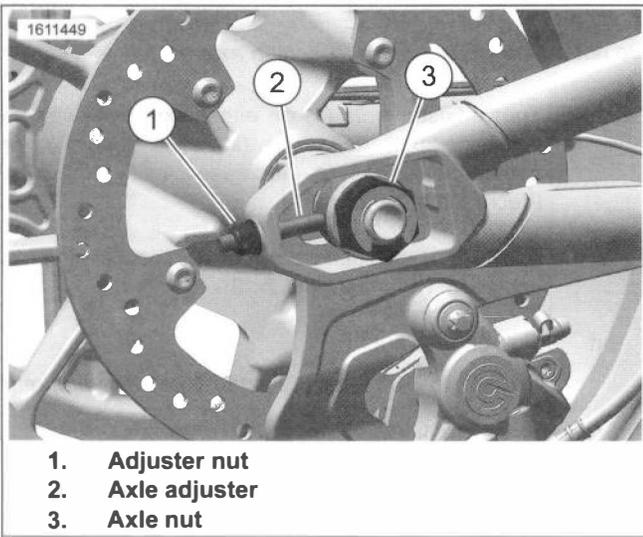
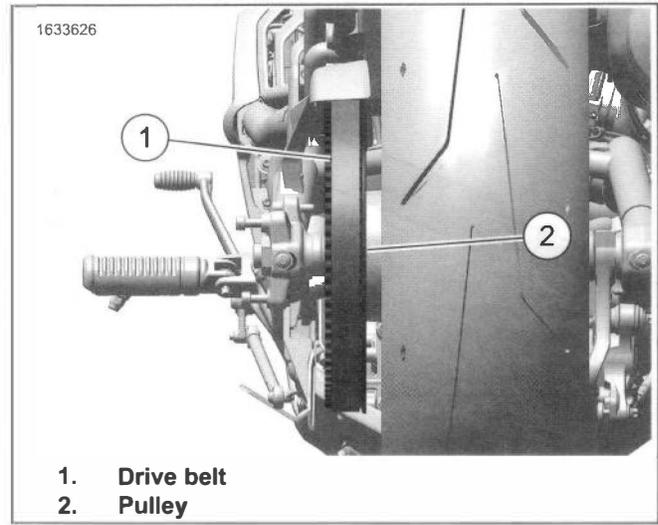

Figure 2-29. Axle Adjuster
Figure 2-30. Drive Belt Alignment
1. See Figure 2-29. Adjust belt deflection.
- a. Loosen axle nut (3).
- b. See Figure 2-30. Spin rear wheel in normal direction of rotation while observing drive belt (1) alignment.
- c. If belt is tracking outside of pulley (2) or tracking on inside lip of pulley, adjust wheel.
- a. See Figure 2-29. Loosen axle nut (3).
- b. Turn right side adjuster nut (1) slightly verifying axle moves when turning nut.
- c. See Figure 2-30. Observe drive belt (1) alignment while spinning wheel in normal direction of rotation.
- d. Verifying belt is moving in the correct alignment direction on pulley (2), if not move nut other way.
- f. Tighten axle nut (3).